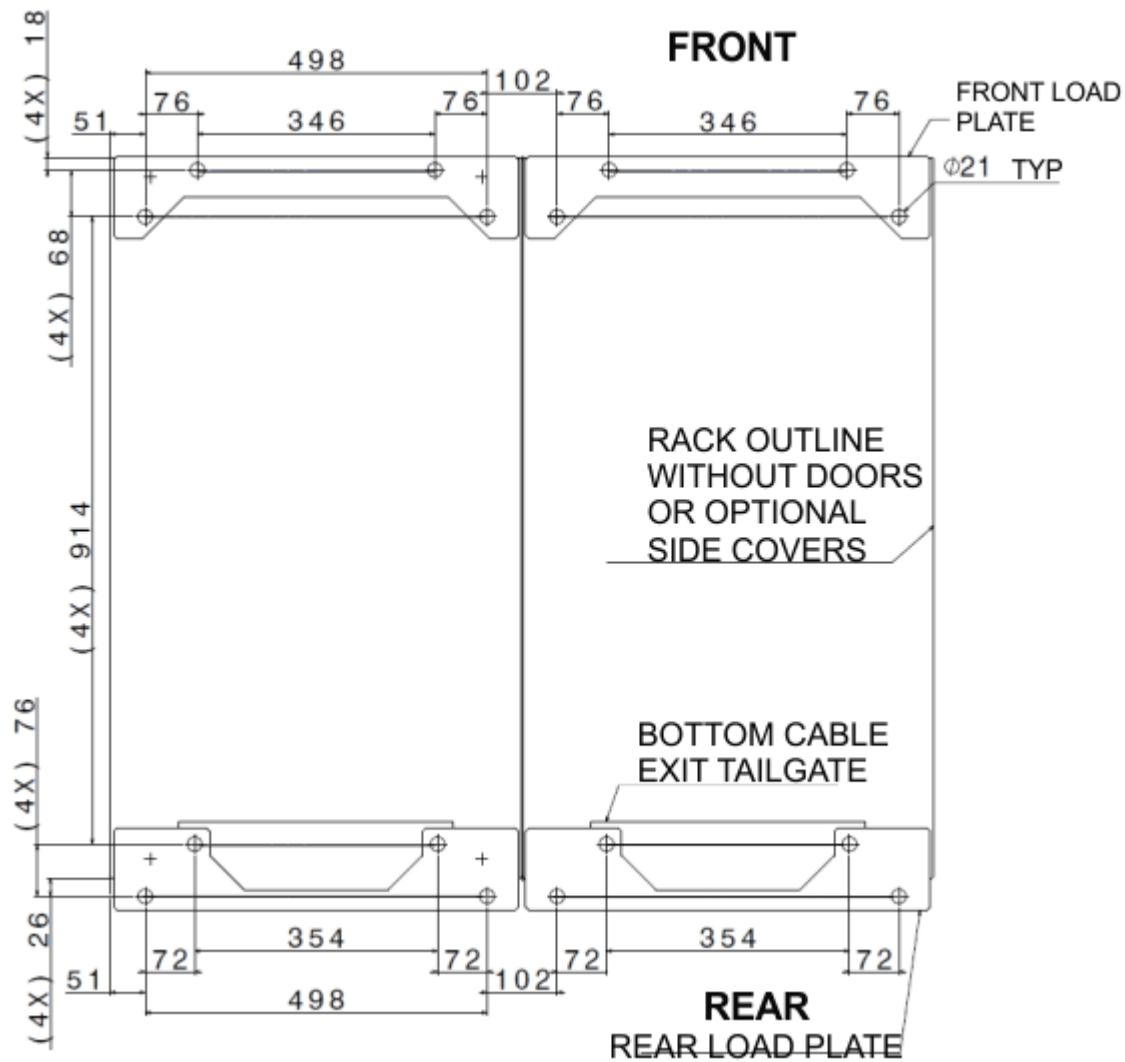

Figure 19. Location for fastener installation (nonraised floor)
- Use Figure 19 on page 122 to determine the placement of the loadplate fasteners (four per loadplate). The pattern repeats for each frame. Dimensions are in millimeters (mm).